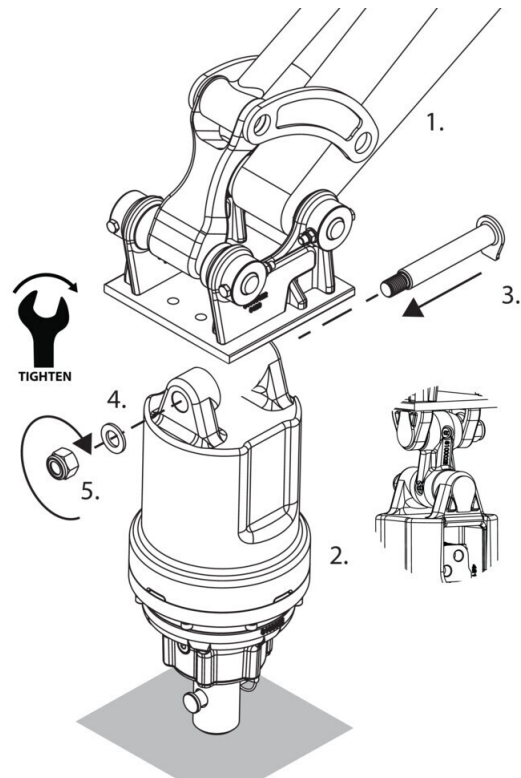

Fig. 13
Secure item 2. to the ground. Align assembly 1. insert item 3. Affix using items 4. & 5. Tighten to 120-140 Nm (88-103 ft-lbs). **Fig.13.**